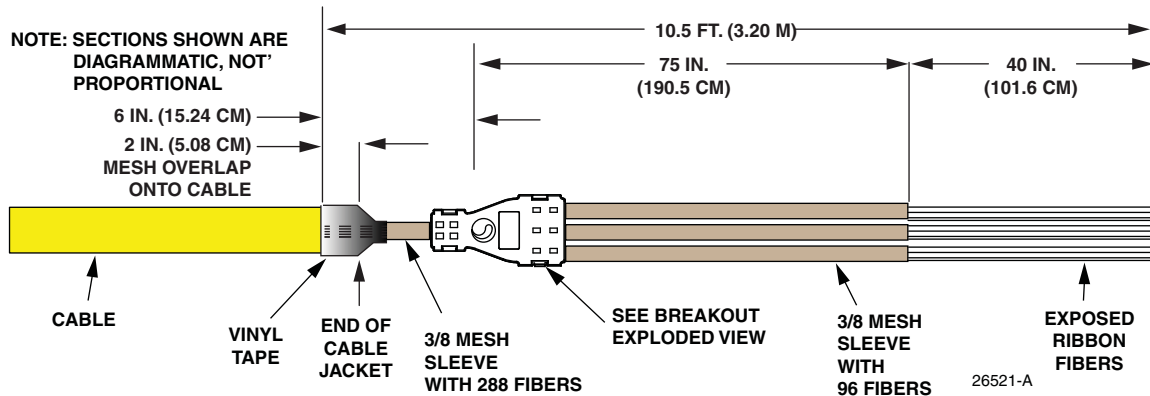

Figure 12. IFC 288-Fiber Ribbon Cable Breakout
7. After completing the OSP cables per the previous step, bring in the first IFC cable and break it out as follows referring to Figure 12:
- c. Slide the 6-inch mesh sleeve over the exposed ribbon fiber to where it emerges from the cable jacket as shown in Figure 12.
- e. Install mesh sleeve of length = 75 in. (190.5 cm) on each 96-fiber branch of the breakout as shown in Figure 12.
- f. Install a breakout kit at the location shown in Figure 12. For details refer to Section 7 on page 4.